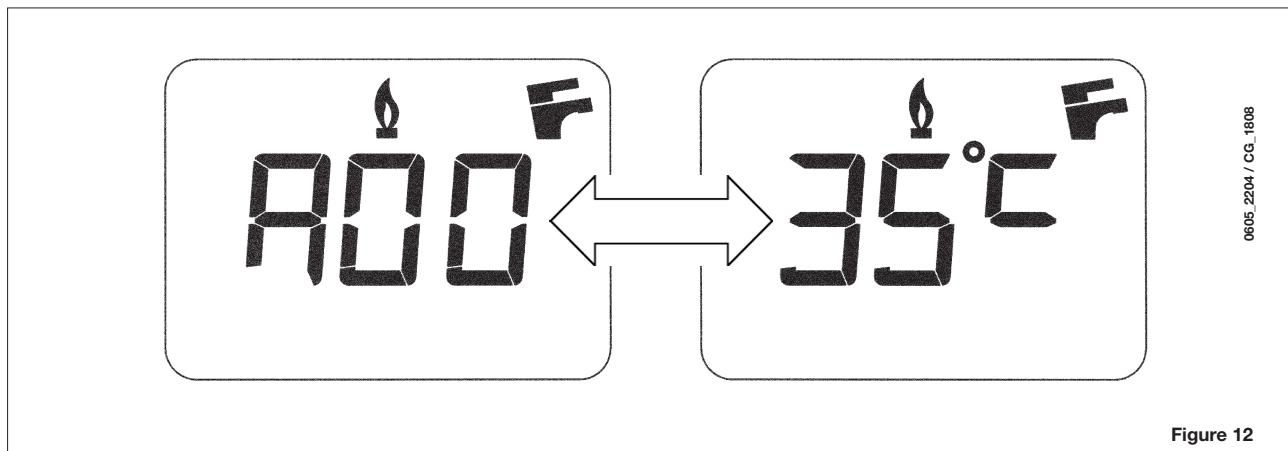

Figure 12
**N.B:** when the "INFO" function is enabled, the message "A00", alternating with the boiler delivery temperature, is shown on the display (figure 12):